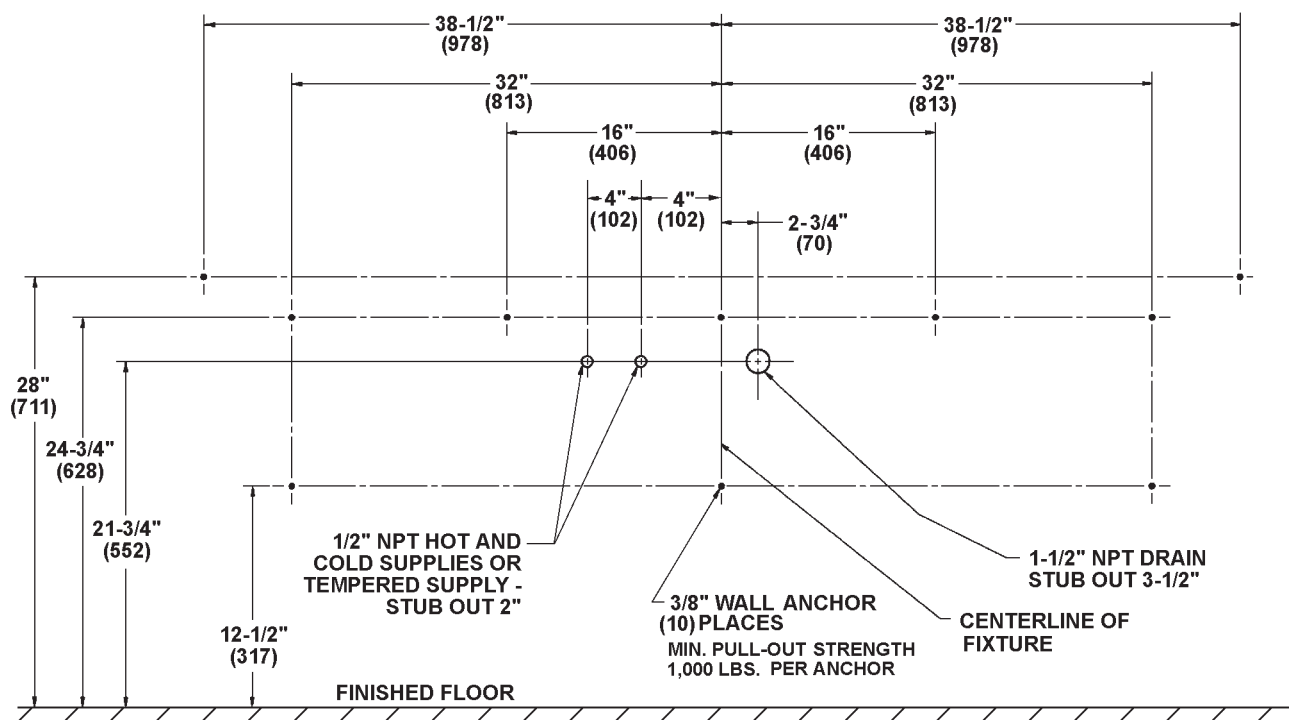
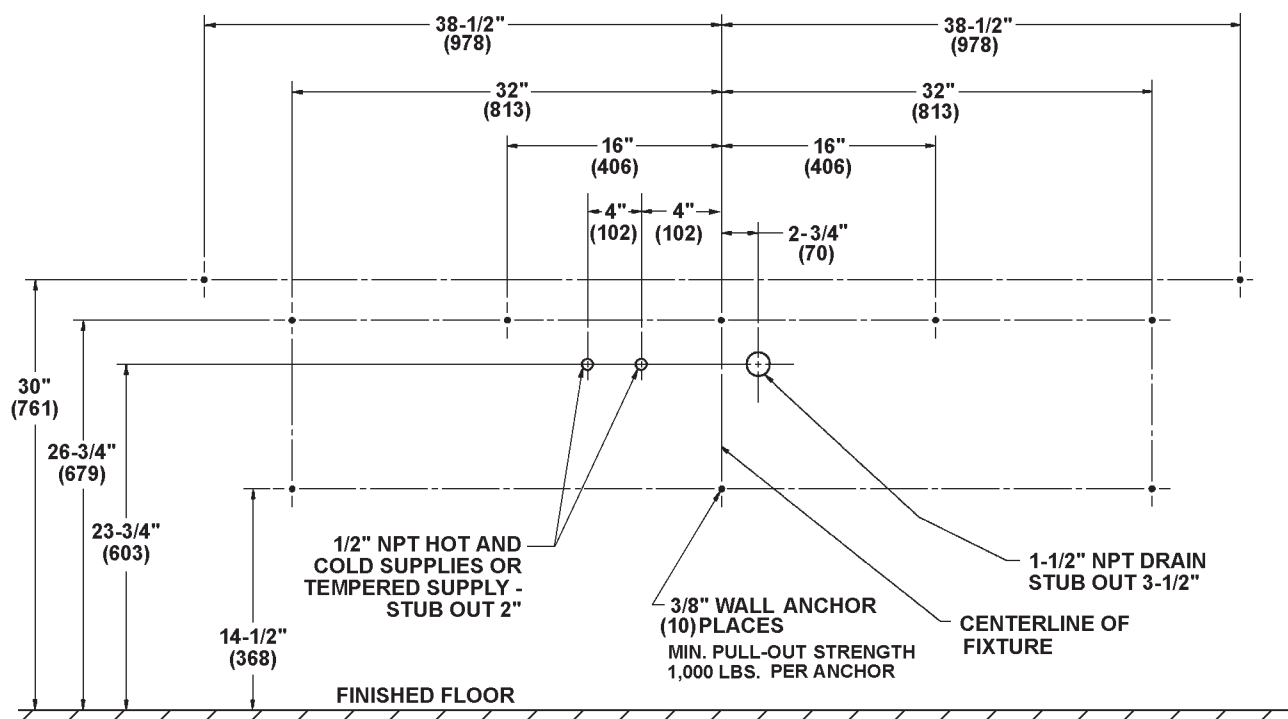

Figure 1a
Figure 1b
Note: See Figure 1a (below) and Figures 1b and 2 (on page 6) when roughing in the Express®.
IMPORTANT: Dimensions shown in Figure 1a are for Juvenile Height grades Pre-K thru 5 or 6, and in Figure 1b for Juvenile Height grades 6 thru 8 or 9.
3. Install (10) 3/8" wall anchors with a minimum pull-out rating of 1,000 lbs. (supplied by installer) at the locations shown in Figures 1a and 1b.